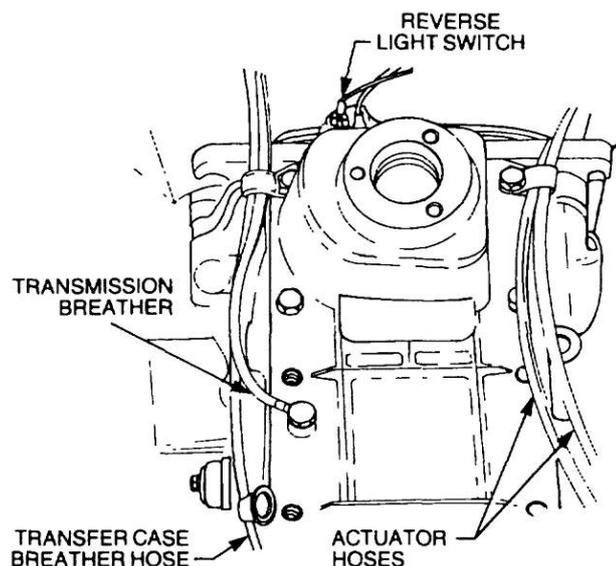

Figure 65 Installation of the Hose Clamps
- y.** Connect the breather hoses to the top of the transmission and to the bell housing. Secure the breather hose and the actuator hoses in position with the respective clamps (Figure 65).
- z.** Install the two push-on electrical connectors on the reverse light switch located on top of the transmission (Figure 65).
- (1)** the transfer-case selector lever;
- (2)** the top cover; and
- (3)** the gearlever.